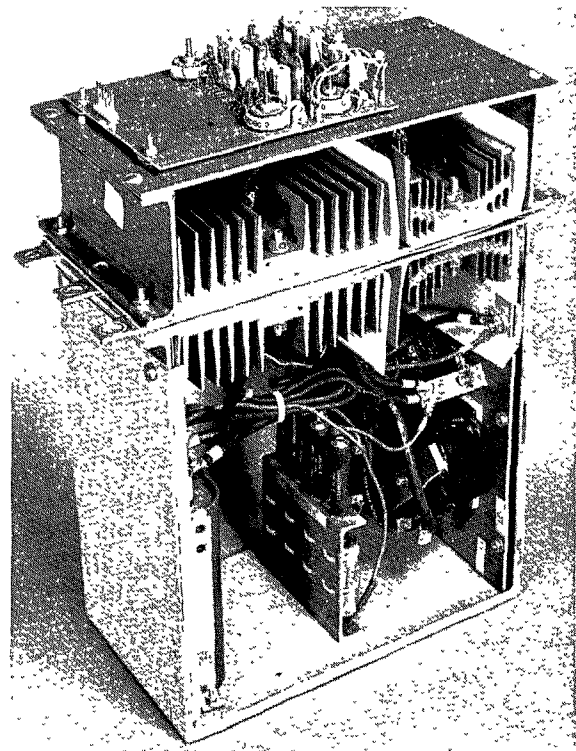

FIGURE 22
2. Stand the phase module on its back side on a table. The pulse transformer printed circuit card should be on top. (Normally on the front of the module). See Fig. 22.